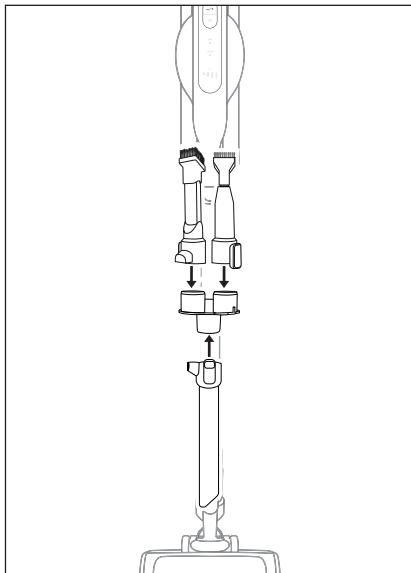

Fig. 17
- ◆ Remove accessories from the appliance and place them on the accessories holder 17 for storage (see Figure 17).